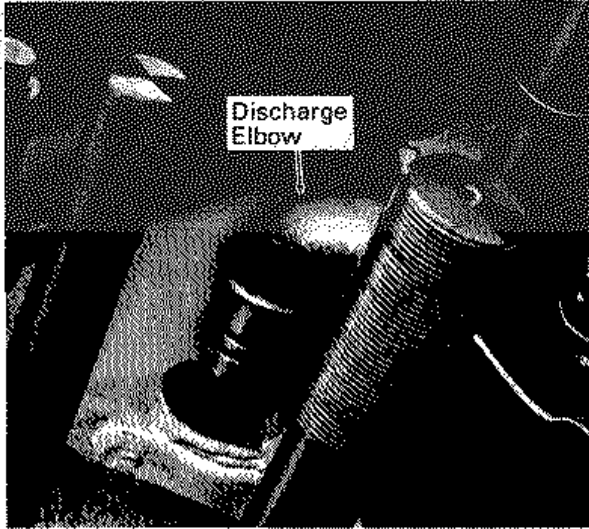

Fig. 5-33 - Water Discharge Elbow Alignment
18. Lower the assembly slowly into the crankcase bore, lining up the water discharge elbow with the mating hole in the crankcase, Fig. 5-33. Be careful that the seals are not damaged or twisted in the grooves while the head is lowered into position.